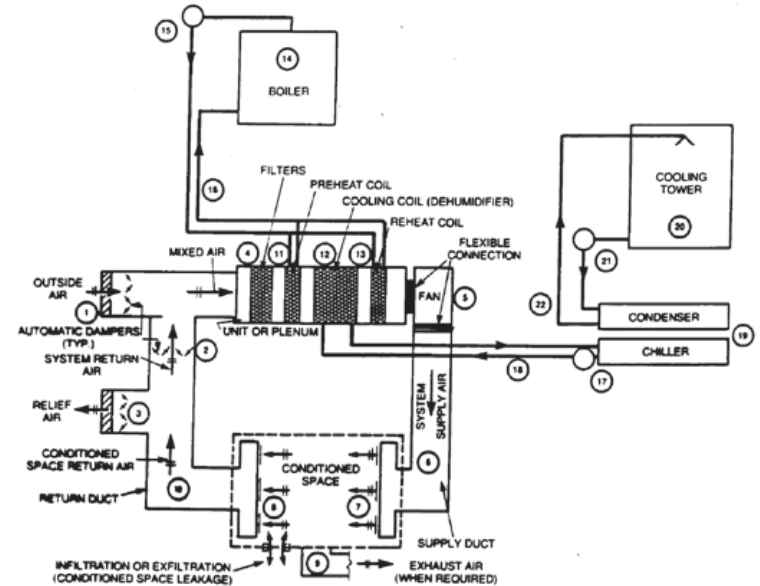

Figure 1
1. Central Systems with Built Up Air Handling Unit (AHU) with Chilled Water and Hot Water or Steam Heat. (See Figure 1)